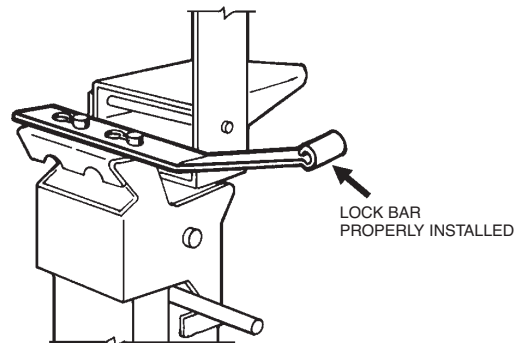

FIGURE 43
12. Remove cocking lever and insert lock bar (Part No. 14985) on left side of the cable lever, over the two shouldered projecting stud extensions, and slide bar forward into locking position. (The release mechanism cannot be actuated, nor can enclosure cover be replaced until the lock bar is removed.) See Figure 43.